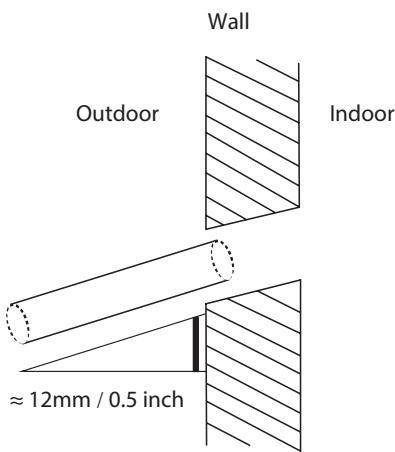

Fig. 5.5
3. Using a 65-mm (2.5") core drill, drill a hole in the wall. Make sure that the hole is drilled at a slight downward angle, so that the outdoor end of the hole is lower than the indoor end by about 12mm (0.5"). This will ensure proper water drainage (See Fig. 5.5). Place the protective wall cuff in the hole. This protects the edges of the hole and will help seal it when you finish the installation process.